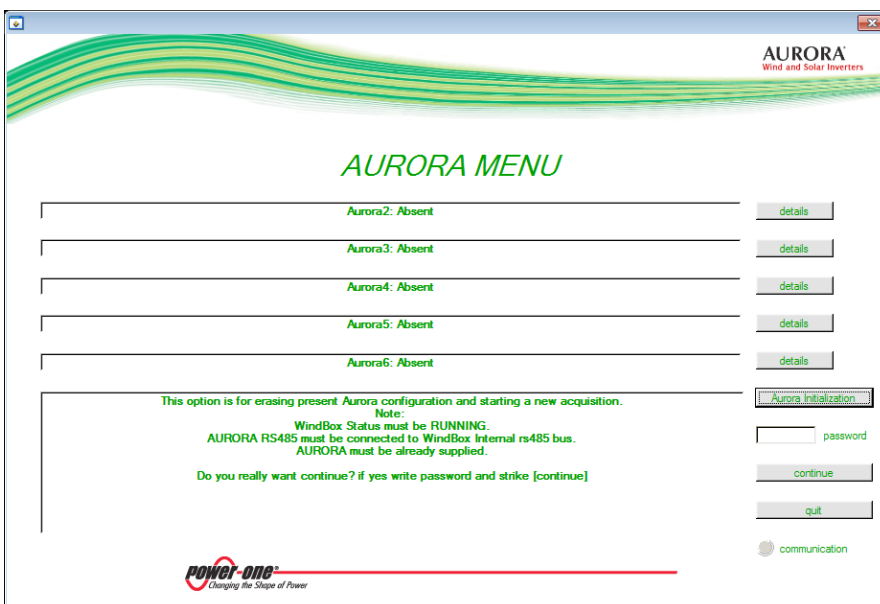

Figure 11
18) Click on “Aurora Initialization”, and the display will appear as shown in figure 11. Enter the password “470” (Fig. 12) and click on “CONTINUE” (Fig. 13). When the procedure has ended, the software will display the screen shown in figure 14. Clicking on the button “Continue” will display the recognized inverters (Fig. 15). Click on “Quit” to return to the main menu.